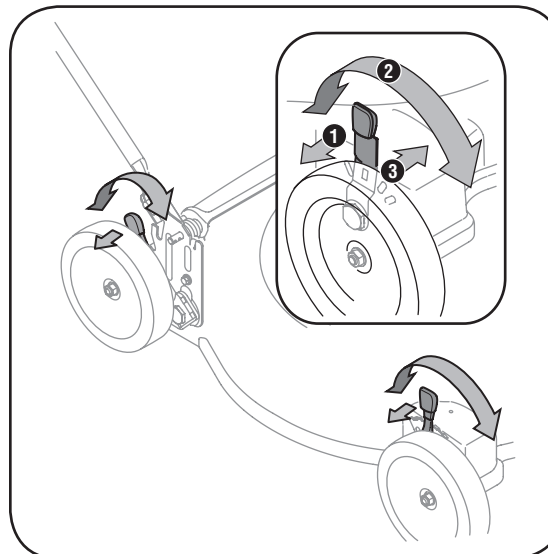

Figure 3-7: Use adjustment levers at each wheel to change the cutting height.
2. Move it to any one of the positions for desired cutting height. See Figure 3-7. Make sure that each wheel is positioned at the same height.